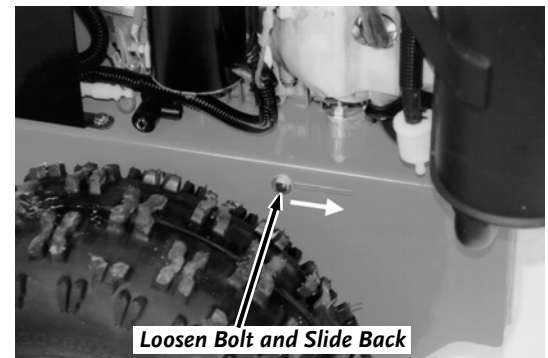

Figure 22
9. Loosen the Belt Retainer Bolts on the outside of the Frame (one on each side) and slide the Retainer back (**Figure 22**).